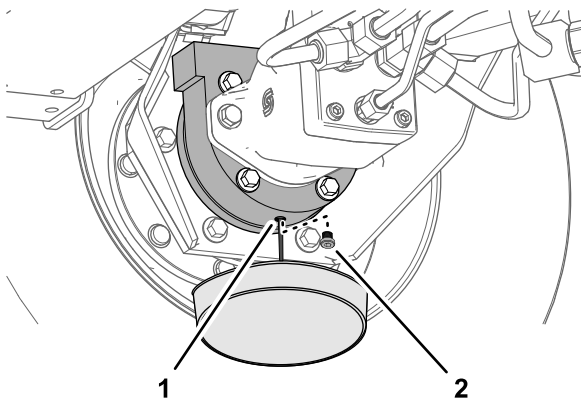

Figure 106
6. Place a drain pan under the brake housing, remove the drain plug, and allow the oil to fully drain (Figure 106).